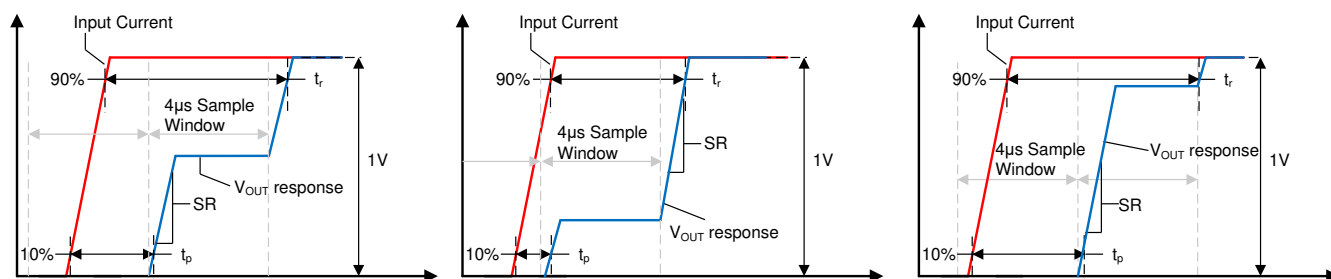

Figure 8-3. Small Current Input Step Transient Response
Slew rate (SR) is defined as the V_{OUT} rate of change for a single integration step's output transition, as shown in Figure 8-3. Because the device often requires two sampling windows to reach a full 90% settling of its final value, this slew rate is not equal to the 10%-90% transition time for the full output swing.
Propagation delay is the time period between the input current waveform reaching 10% of its final value and V_{OUT} reaching 10% of its final value. This propagation delay is heavily dependent upon the alignment of the input current step and the sampling period of the TMCS1100, as shown for several different sampling window cases in Figure 8-3.
Response time is the time period between the input current reaching 90% of its final value and the output reaching 90% of its final value, for an input current step sufficient to cause a 1-V transition on the output. Figure 8-3 shows the response time of the TMCS1100 under three different time cases. Unless a step input occurs directly during the beginning of one sampling window the response time will include two sampling intervals.